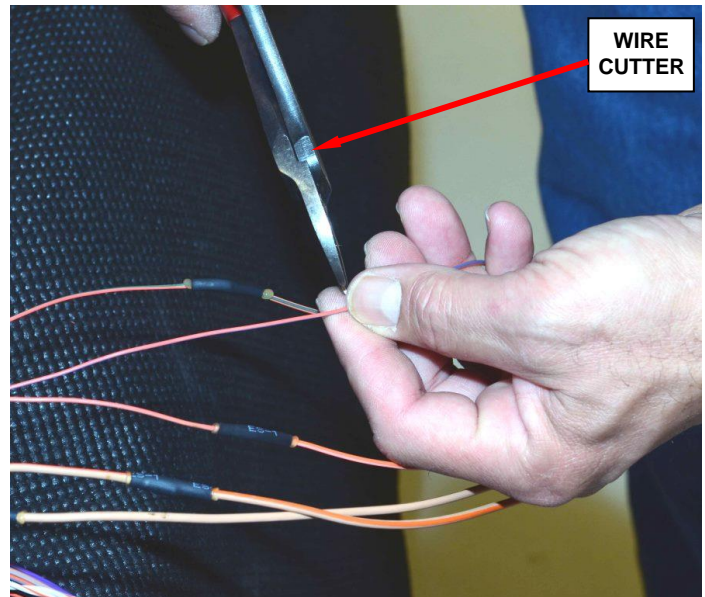

Figure 8 – Cut Wire (Staggering Cuts)
- a. Cut the old wire on the electrical connector (Figure 8).